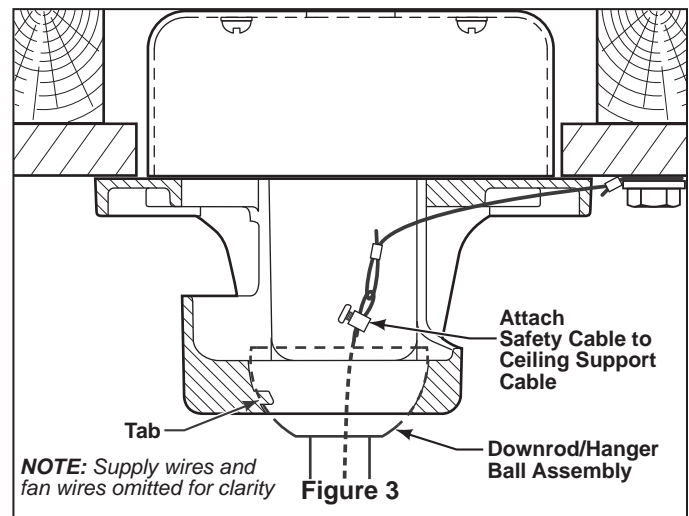

Figure 3
3. Loosen the two setscrews in the Downrod Support. Align the Clevis Pin holes in the Downrod with the holes in the Downrod Support. Install the Clevis Pin and secure with the Hairpin Clip. (Figure 3) Be sure to push the straight leg of the hairpin clip through the hole near the end of the clevis pin until the curved portion of the hairpin clip snaps around the clevis pin. The hairpin clip must be properly installed to prevent the clevis pin from working loose. Pull on the Downrod to make sure the clevis pin is properly installed.
4. Route wires and cable through Motor Coupling Cover and Canopy on fan shown with open side facing up. (Figure 3)
4. Carefully lift the fan and seat the downrod/hanger ball assembly on the hanger bracket that was just attached to the ceiling joist. Be sure the groove in the ball is lined up with tab on the hanger bracket. (Figure 3)
5. Attach the safety cable to ceiling support cable. Slide cable clamp onto safety cable (from fan). Place the end of cable through the loop of ceiling support cable. Pull as much cable through loop as possible. Feed end of cable into clamp hole and firmly tighten screw (Figure 3). Cut off excess safety cable.
5. Attach assembled blades and blade holders to the motor hub using the provided screws & lock washers. (Figure 3)
3. Install pull chains and fobs. (Figure 3)
3. If airflow is desired in the opposite direction, turn the fan off and wait for the blades to stop turning. Then slide the reverse switch to the opposite position and turn fan on again. Your fan model is equipped with a 4-position, 3-speed, pull chain switch. The operating sequence is as follows: (Figure 3)